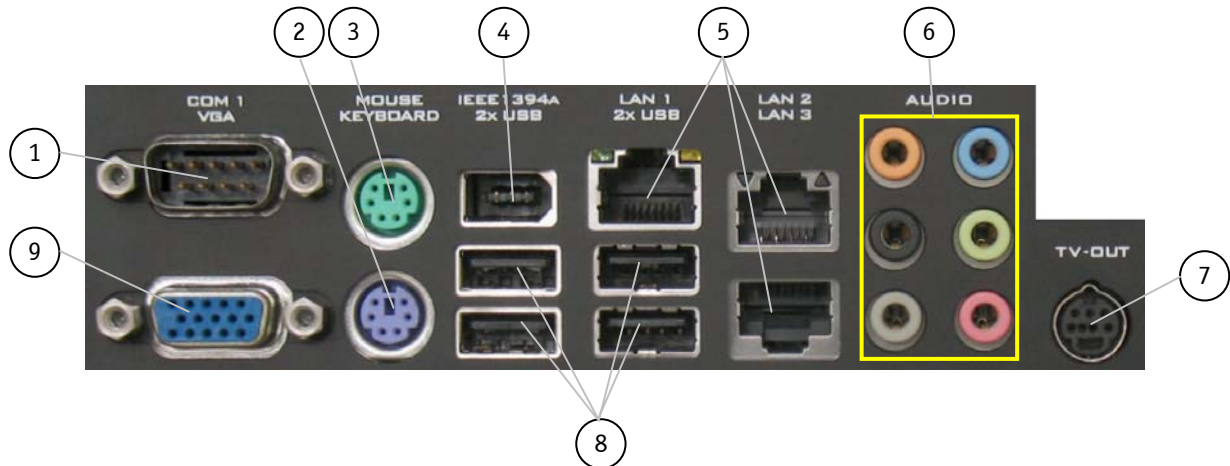

Fig. 14: External interfaces of the KTGM45/mITX motherboard
This RS232 serial port (Fig. 14, pos. 1) is provided as a 9-pin D-SUB connector. It allows the connection of a serial peripheral device.
This port (Fig. 14, pos. 9) is provided as a 15-pin D-SUB connector. You can connect an analog monitor to this connector.
You can connect a PS/2-compatible mouse to the green Mini-DIN connector (Fig. 14, pos. 3).
You can connect a PS/2-compatible keyboard to the purple Mini-DIN connector (Fig. 14, pos. 2).
The IEEE 1394a port (Fig. 14, pos. 4) consists of a 6-pin connector. Various IEEE 1394a-compatible peripherals can be connected to this port.
You can connect various USB devices to these four USB 2.0 interface connectors (Fig. 14, pos. 8).
These ports (Fig. 14, pos. 5) consist of RJ45 connectors and support a transfer rate of 10/100/1000Mbps. The port marked "LAN1" supports "Wake on LAN" only if AMT is "Enabled". Please observe for LAN configuration the settings BIOS Setup / Advanced / LAN Configuration.
(refer to Fig. 14, pos. 6)